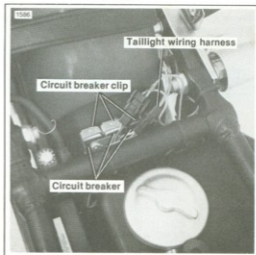

Figure 2-128. Taillight Wiring and Circuit Breakers FX Models
1. See Figure 2-128. Unplug the taillight assembly and pull the circuit breakers out of the retaining clips.